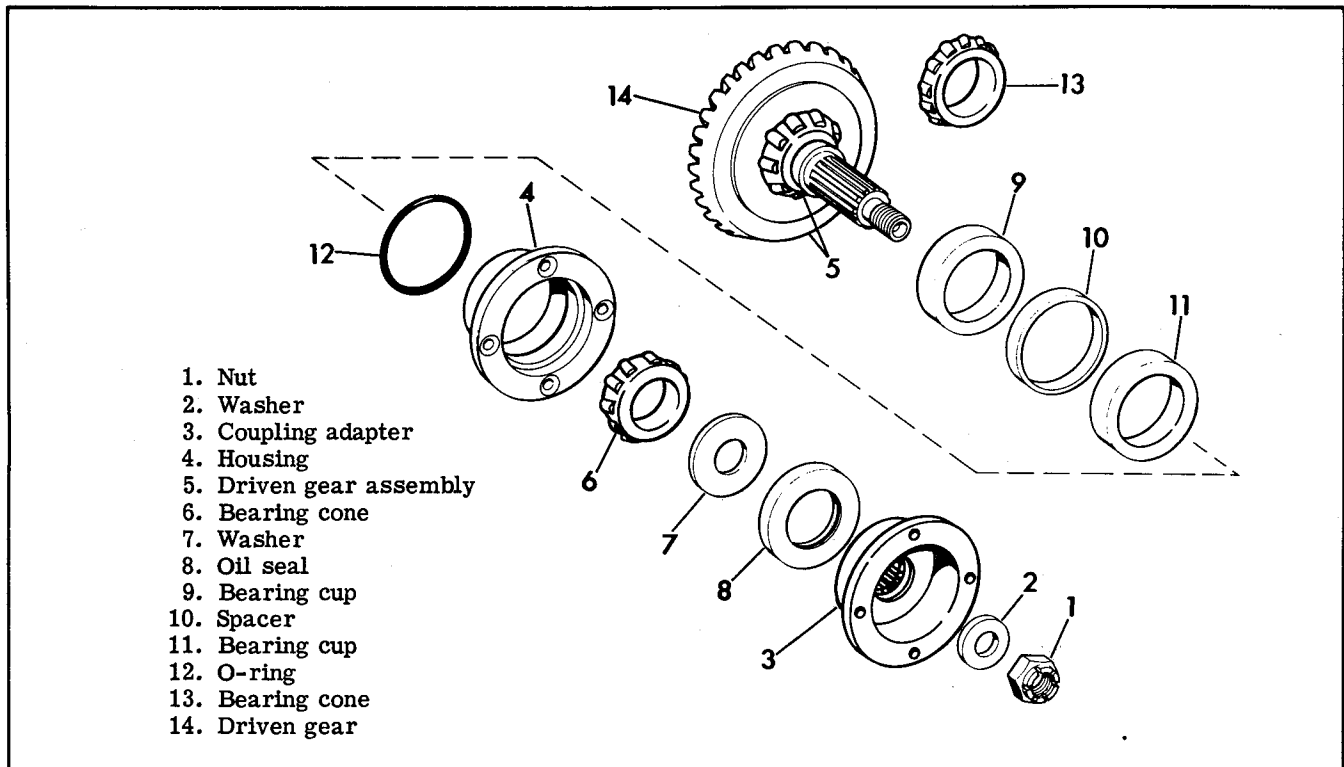

Figure 4D-44. Driven Gear Assembly - Exploded View
**DISASSEMBLING DRIVEN GEAR ASSEMBLY (Fig. 4D-44)**